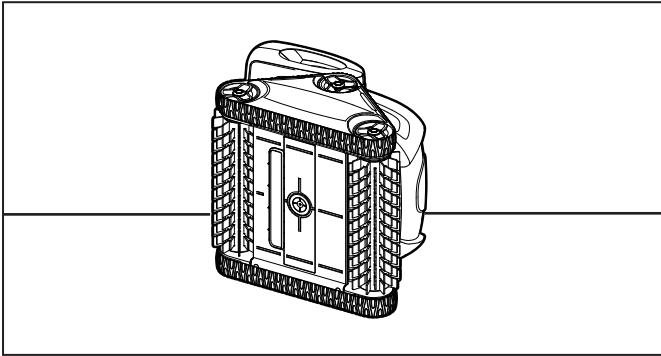

**Figure 30. Cut Tabs**
5. Use scissors to cut the tabs at the guides, as shown in Figure 30.